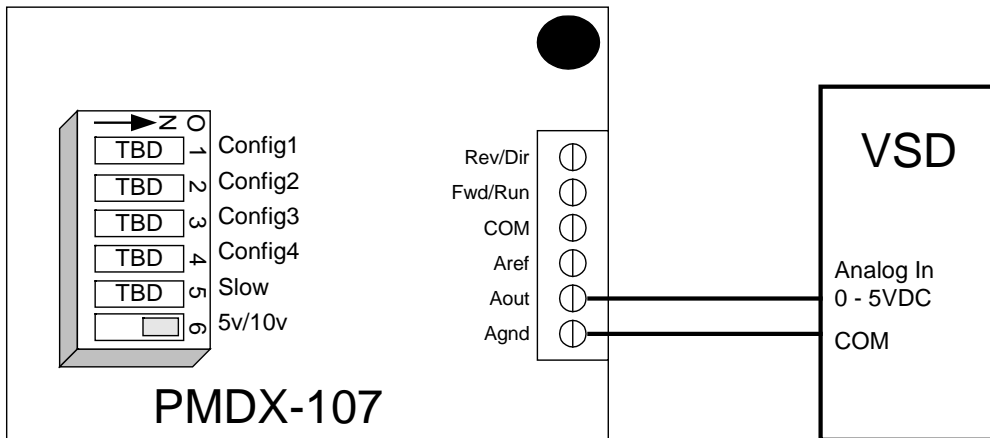

Figure 1 - Example 0V to 5V VSD Connections & DIP Switch Settings
- 0 to +5V The VSD expects an analog voltage between 0 and +5V, where +5V is full speed. In this case, the PMDX-107 provides the +5V reference for its analog output circuit. See Figure 1 for an example of the DIP switch settings and VSD connections for this configuration.